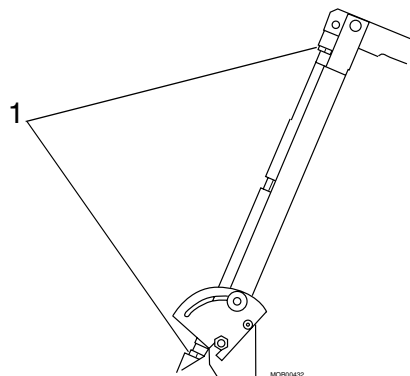

Fig. 12 Adjustment rod, locking nuts
14. Slightly loosen the locking nuts of the adjustment rod, the upper one has a left hand thread (pos. 1 / Fig. 12).